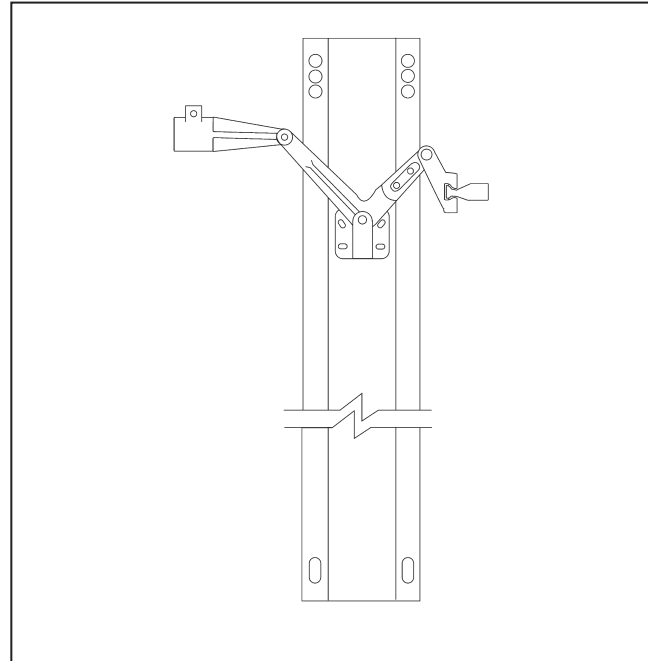

Figure 4. Attaching the bell-crank.
STEP 3. Attach the bell-crank to its base or bracket (pole-mounted arrangements only). See Figure 4.